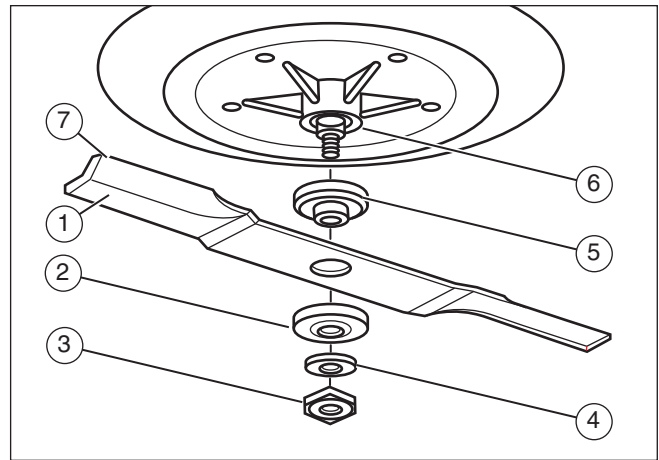

Figure 7
If you keep the blade (1) sharp and inspect the blade for damage, the blade will cut better and be more safe to operate (see **Figure 7**). Frequently check the blade for excessive wear, cracks, or other damage.
3. Remove the nut (3) that holds the blade (1) (see **Figure 7**).
4. Check the blade and the blade adapter (5) according to the instructions for "Inspect Blade." Replace a badly worn or damaged blade with an original equipment blade. See an authorized service center in your area.
6. Mount the blade and blade adapter (5) on the mandrel (6).
7. Mount the blade so that the hi-lift edges (7) are up. If the blade is upside down, the blade will not cut correctly and can cause an accident.
8. Fasten the blade with the original washers and nut (3). Make sure the outside rim of the Belleville washer (2) is against the blade.